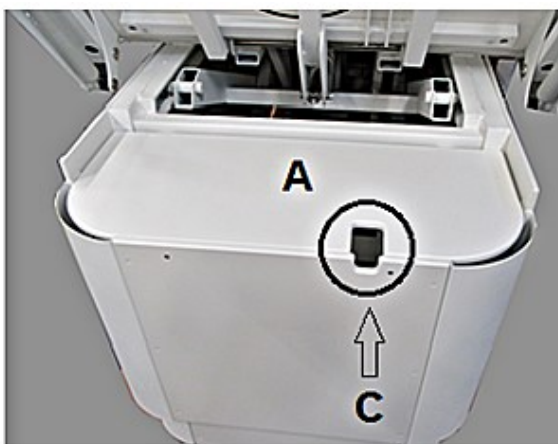
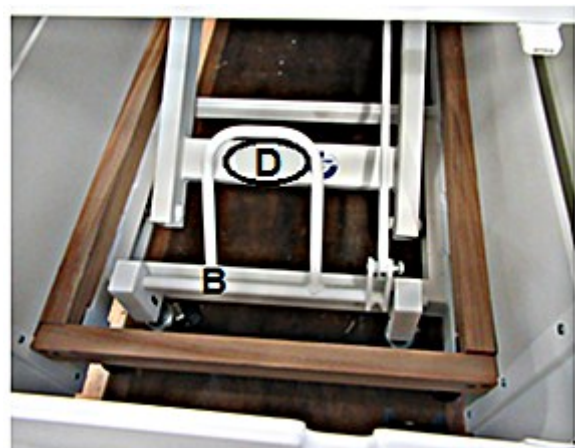

ABB. 1
ABB. 2
- ❖ The rating plate is in the casing under the cover plate on the head side of the MLW (s. **fig. 1** and **fig. 2**).
- ❖ The lever (**B** / **fig. 2**) is intended for the operation of the extendable / retractable castors (s. chapter 6.2.2 EXTENDABLE / RETRACTABLE CASTORS)
2. You must remove the cover plate (**A** / s. **fig. 1**) to gain access to the rating plate (**D** / s. **fig. 2**).
3. Make sure to align the recess (**C**)³ of the cover plate (**A**) properly when replacing the cover plate (s. **fig. 1**).